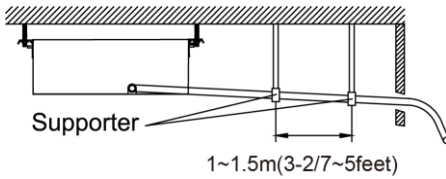

Fig. 4.22
- (3). When the hose is long, install supporters.(Fig. 4.22)
- (4). Always use the drain hose which has been insulated properly.